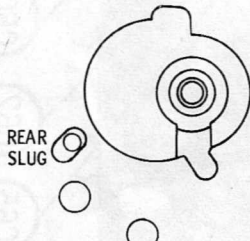

FIG. 4
- Using an 1/8" blade non-metallic alignment tool, carefully adjust the oscillator slug for best picture quality. (When two slugs are visible adjust the one marked REAR SLUG in Fig. 4) Repeat the procedure for the remaining channels in order of their channel number (from lowest channel to highest channel).